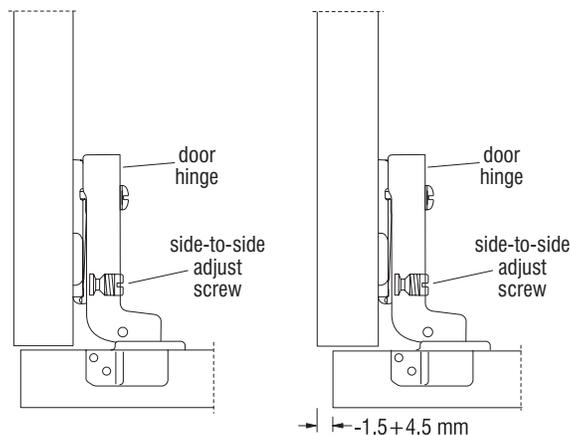

Figure 12 - Side-to-Side Adjustment
3. For **side-to-side adjustment**, turn the side-to-side adjust screw in or out. The screw works in conjunction with the inner leaf of the hinge arm to move the door back or forth without a change in gap between the door and the cabinet (Figure 12).